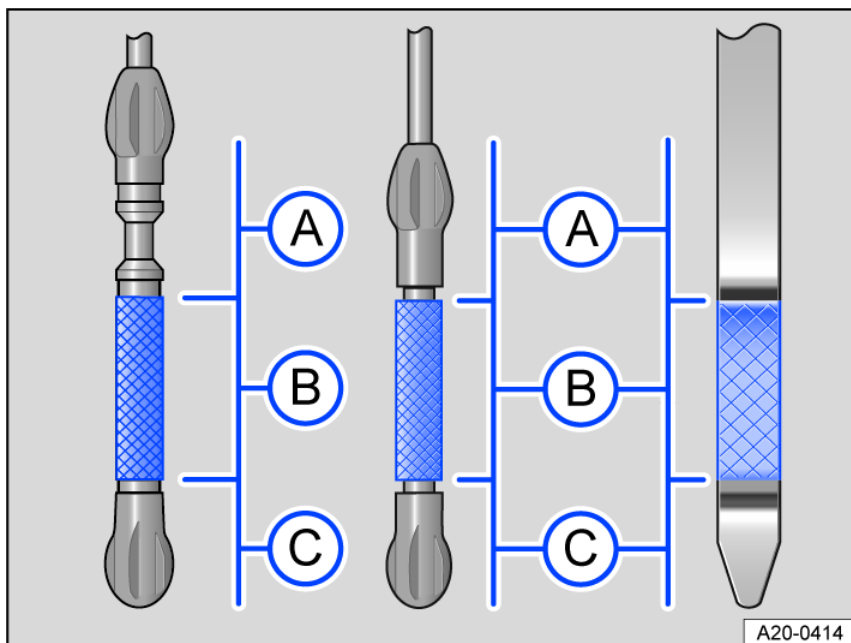

Fig. 188 Engine oil level markings on the oil dipstick (versions).
3. Remove the dipstick again and read the oil level on the dipstick as described below *fig. 188*:
5. When you are done adding oil, the oil level should be in the center of area *fig. 188* **B**. The engine oil level must not be in the area *fig. 188* **A**.
6. If you accidentally add too much oil and the oil level is in area *fig. 188* **A**, do not start the engine. Contact an authorized Volkswagen dealer or authorized Volkswagen Service Facility for assistance.
- If the oil level is in the *fig. 188*  range, do not start the engine, and contact an authorized Volkswagen dealer or authorized Volkswagen Service Facility.